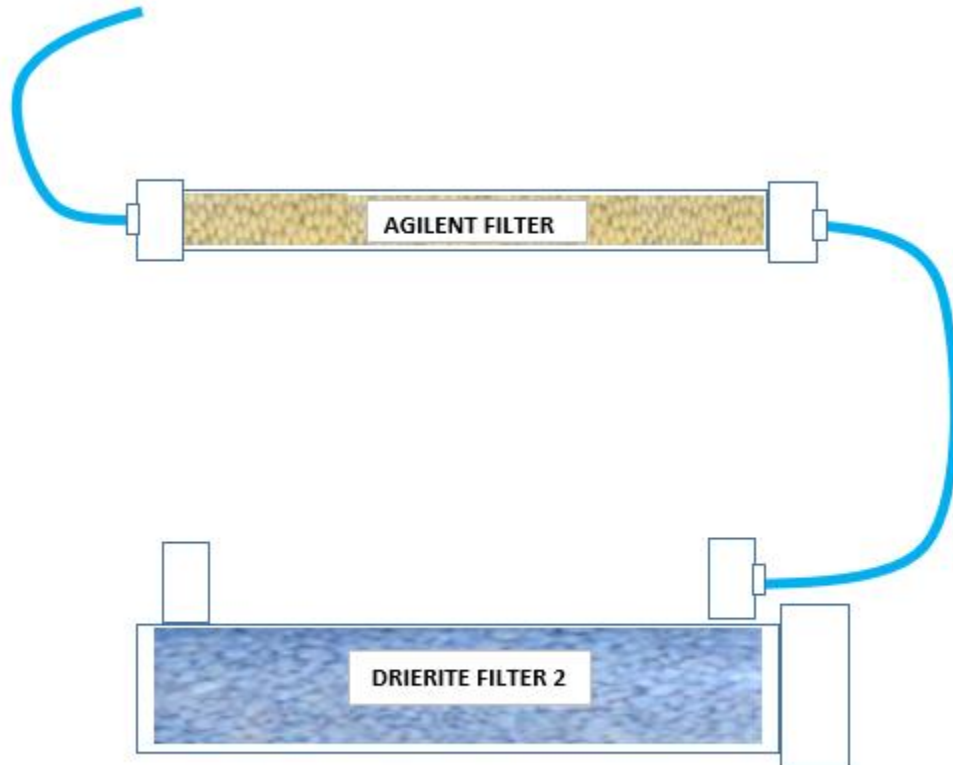

Figure 2
- This will allow both these filters and connecting tubes to be removed from the MRU as illustrated in **Figure 2**.